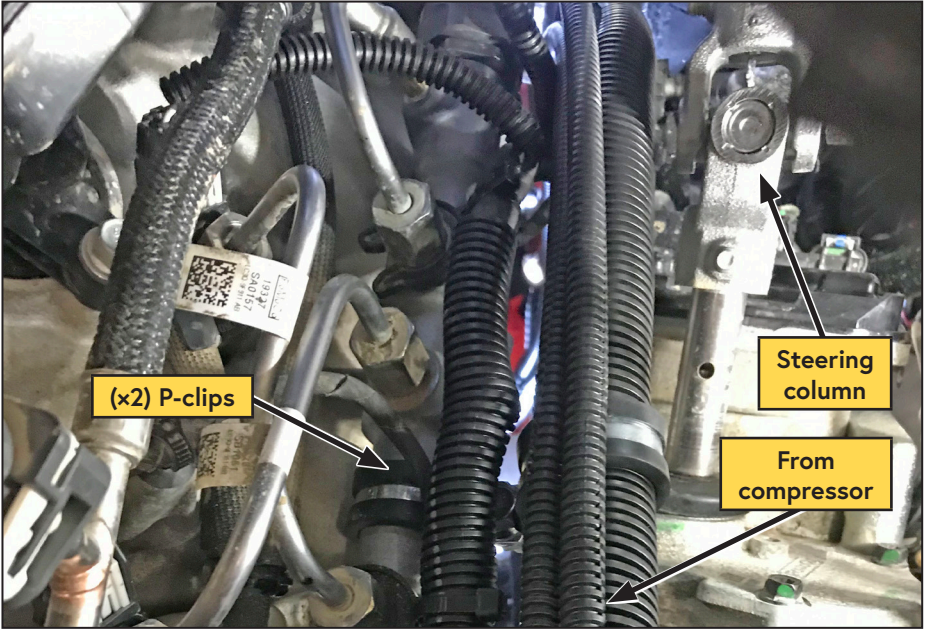

Figure 62 — Routing the hoses
- Using the (x2) supplied P-clips and fastener, secure the discharge hose to the fuel rail (Figure 62).